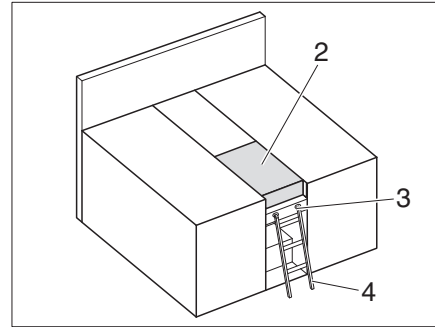

Fig. 173 Double bed
- Lay on the additional cushion (Fig. 173,2).
Access ladder Always use the access ladder (Fig. 173,4) provided as standard to reach the top bed.
Attaching: ■ Attach the access ladder (Fig. 173,4) with the rails to the holder (Fig. 173,3) on the panel.